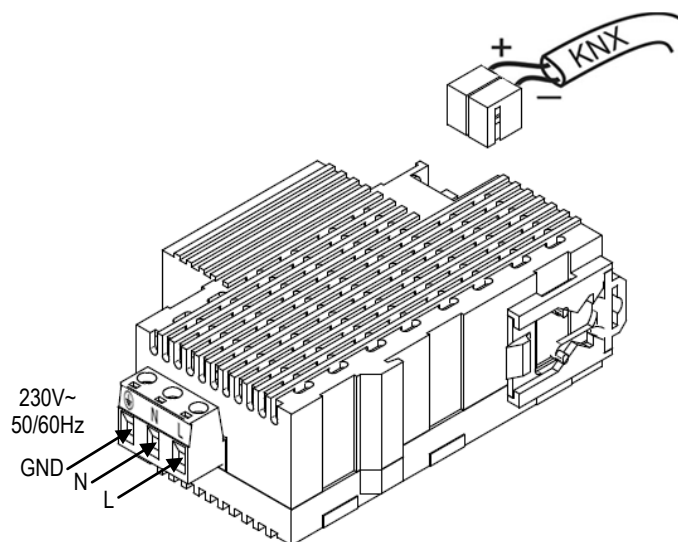

Figure 2: ZPS160MPA installation and connection
- Main power must be connected to L, N and ground terminals, in accordance with the schematic represented in figure 2.
- The coil integrated KNX output must be connected through a standard KNX connector as shown in the figure 2.